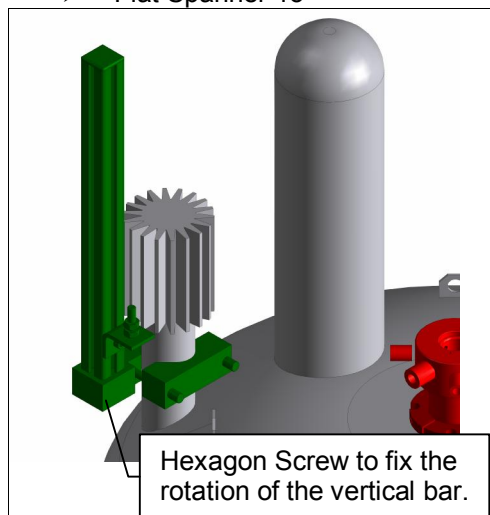

Figure 1.12: Vertical Bars attached to the Nitrogen Nozzles.
- Attach the horizontal bar pair to the vertical bars. Figures 1.12 and 1.13 show the two valid ways for mounting the horizontal bar pair.